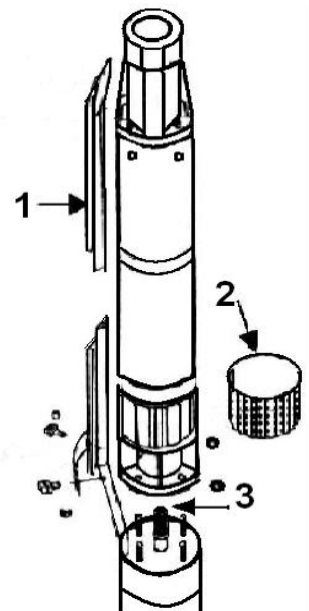

Fig. 2
- Remove cable sheathing strip item 1 on drawing No. 2,
- Remove the suction screen pos. 2 fig. 2 and expose the shaft end of the pump,
- Check that the motor shaft end rotates without any problems and jams pos. 3 on drawing No. 2,